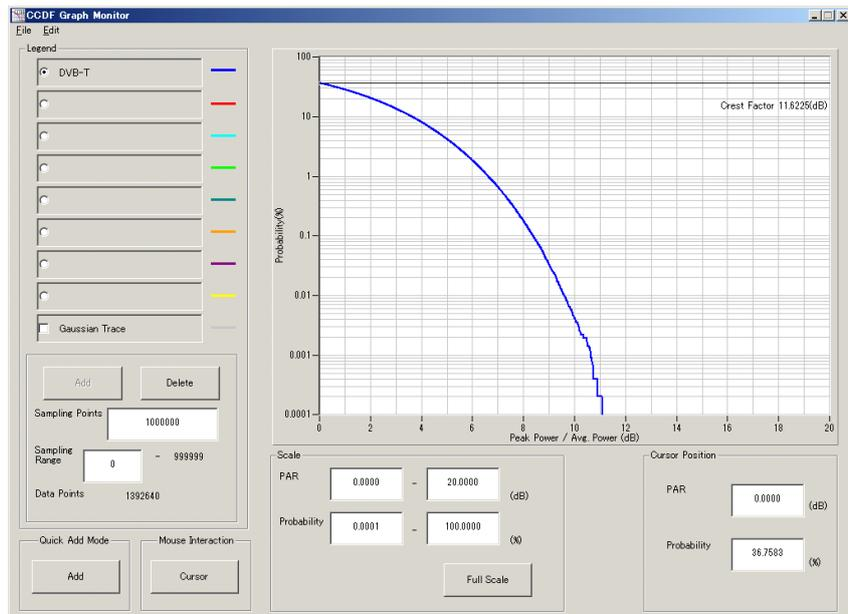

Figure 3.1.8-1 CCDF Graph Monitor window
2. Select **[CCDF]** from the **[Simulation]** menu or click the  tool button. The CCDF Graph Monitor window shown in Figure 3.1.8-1 is displayed with the trace of the generated waveform pattern.